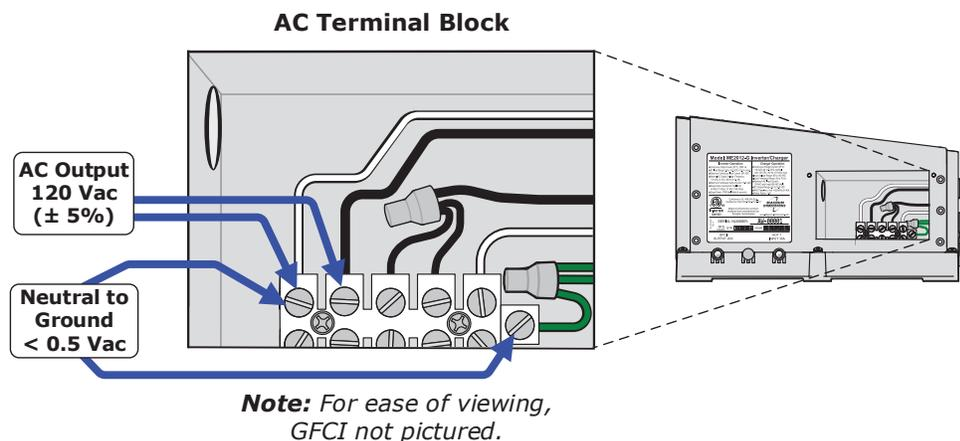

Figure 2-17, ME-G Series AC Voltage Checks
5. Check the AC output voltage of the inverter by connecting an AC voltmeter to the output terminals (see Figure 2-17) and verify the correct output voltages.